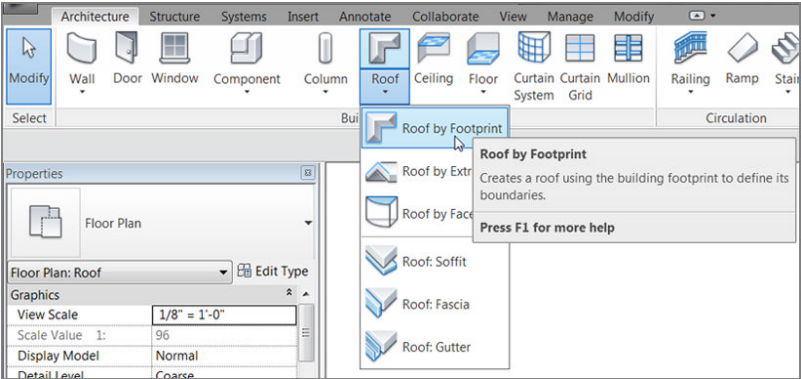

FIGURE 7.2 : Clicking Roof By Footprint on the Architecture tab of the Design bar
- 8. On the Architecture tab, click Roof > Roof By Footprint, as shown in Figure 7.2.